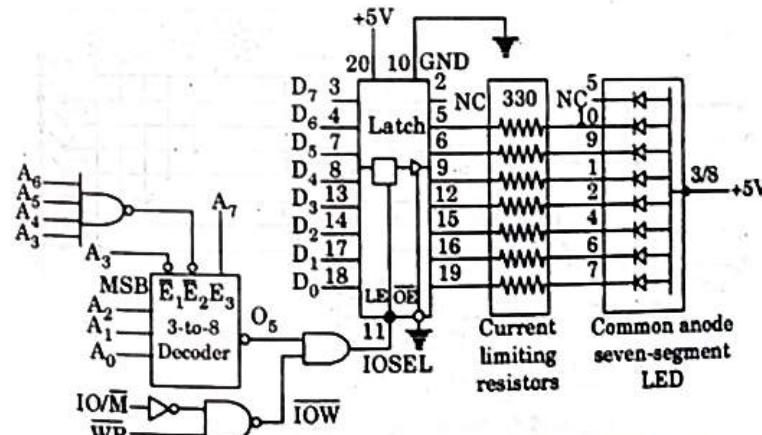

Fig. 1.26.2. Interfacing seven-segment LED using 3:8 decoder
- Consider a seven segment LED that is connected using 3:8 decoder. The circuit diagram is shown in Fig. 1.26.2.
9. This can be achieved using A_2 , A_1 and A_0 as input lines to the decoder. A_1 can be connected to active low enable \bar{E}_1 and the remaining address lines can be connected to \bar{E}_2 through 4-input NAND gate. Fig. 1.26.2 shows the output port with address F5 H.